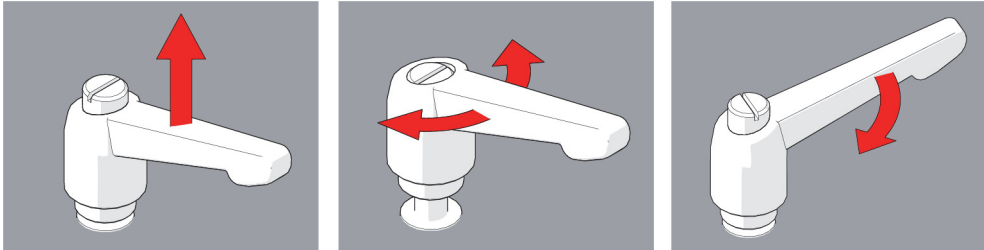

Figure 2-23 Ratchet lever locking position adjustment
Ratchet levers are used for various locking functions on the ChainSCANNER system. Occasionally, changing the lever locking position is required (see Figure 2-23 on page 53).
1. Pull the ratchet lever away from the base to which it is connected (see Figure 2-23 on page 53).